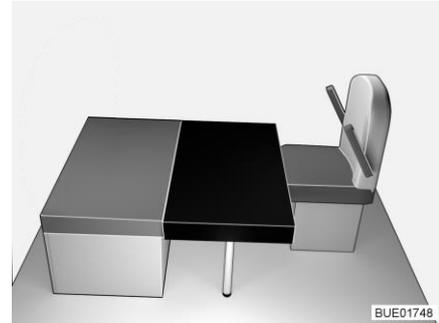

Fig. 82 After conversion
- Place the rectangular additional cushion on the table (in front of the seat cushion of the bench, see Fig. 82). When doing so, the cutout in the additional cushion is located on the frontal supporting wall.